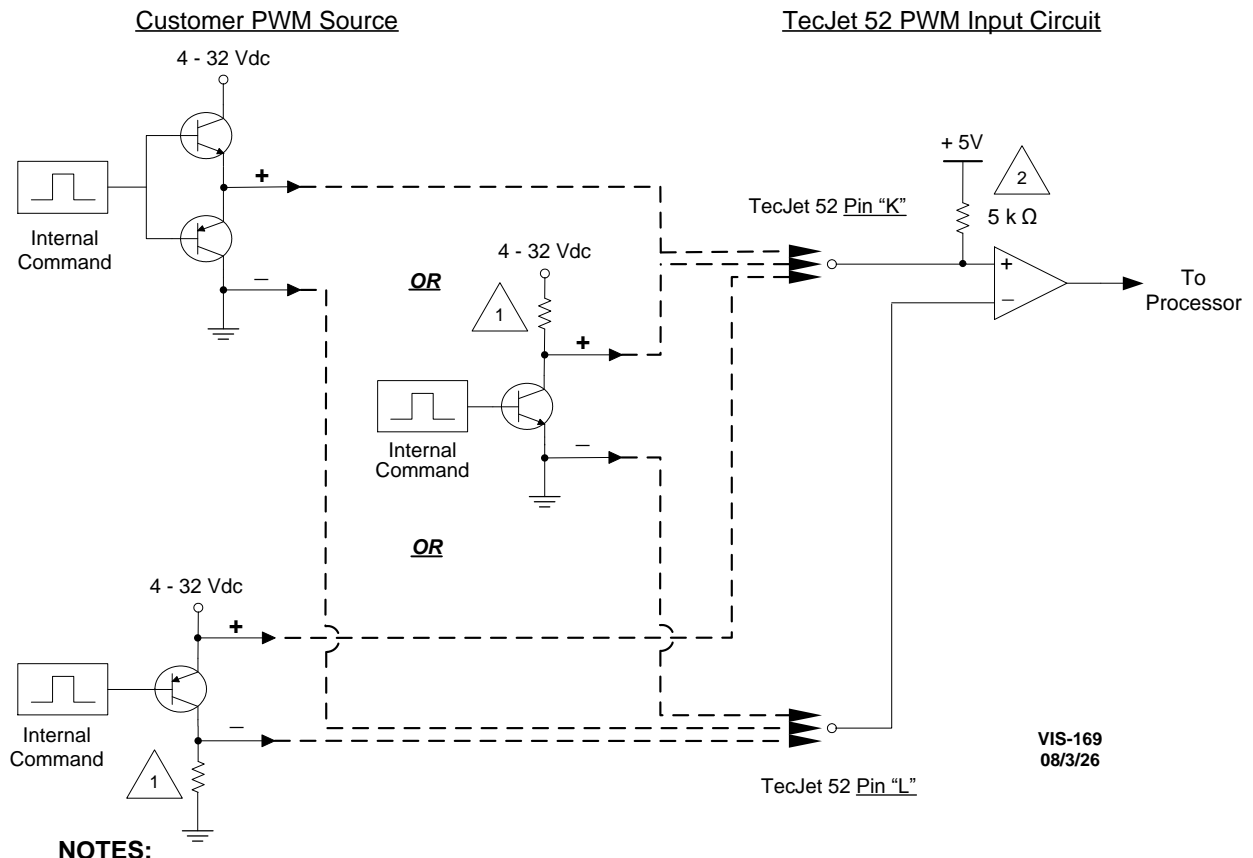

Figure 2-2. TecJet 52 PWM Wiring
V = CAN Ground (do not connect unless CAN source is isolated—see *Figure 2-2*)
Only use the CAN ground pin (V) if the CAN source is isolated. See Figure 2-2. If pin V is used with a non-isolated CAN source, a ground loop can be formed, which can disrupt communications and/or damage circuitry.